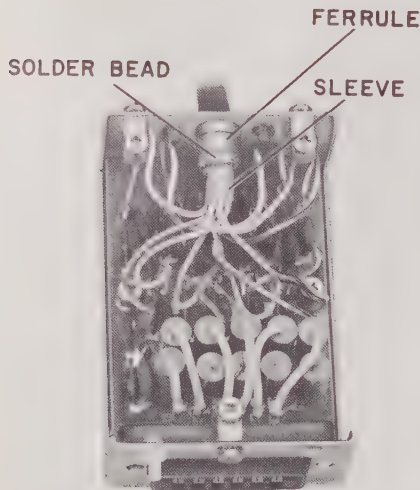
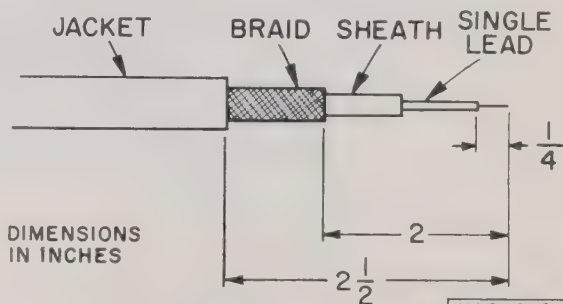

Figure DI-4.
Figure DI-5.
The Filter Plug, FP-1B, must be wired to the external programmer. For synthesizers purchased initially with programmable digits, a 50-foot roll of special 12-wire cable is furnished. For conversions or expansions this cable is recommended as an accessory available; the catalog number is 1160-9650 (50-foot lengths). See Figure DI-4 for a completed FP-1B assembly and Figure DI-5 for cable preparation details.
e. Strip 2 1/2 inches of the grey vinyl jacket from the end of the cable, taking care not to sever the braid underneath it (see Figure DI-5).
q. Dress the leads as shown in Figure DI-4. The planned slack in the leads provides service loops that permit easy alteration of the wiring at a later time, if desired.
(See Figures DI-4 and DI-19)